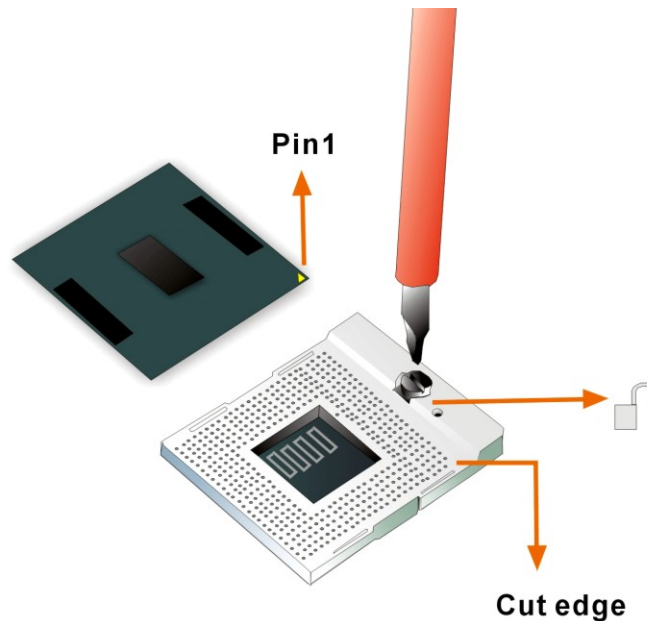

Figure 4-1: Make sure the CPU socket retention screw is unlocked
Step 1: Unlock the CPU retention screw. When shipped, the retention screw of the CPU socket should be in the unlocked position. If it is not in the unlocked position, use a screwdriver to unlock the screw. See **Figure 4-1**.
- Step 4: Correctly position the CPU.** Match the Pin 1 mark with the cut edge on the CPU socket. See **Figure 4-1**.